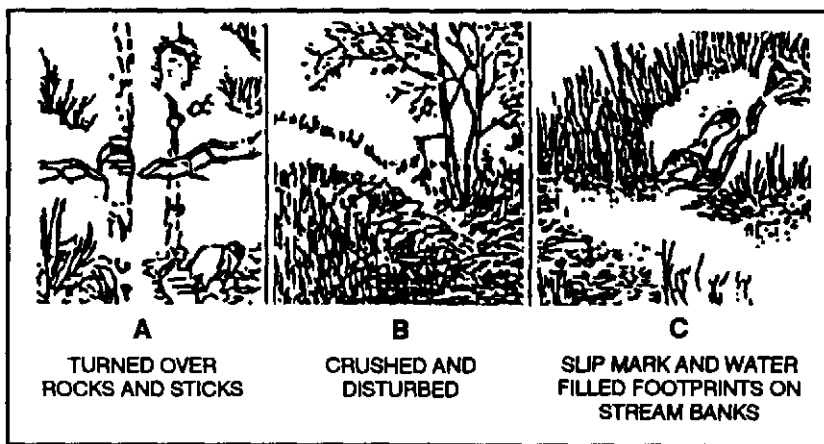

Figure 8-4. Other displacements.
c. Recognizing Other Signs of Displacement Foliage, moss, vines, sticks, or rocks that are scuffed or snagged from their original position form valuable indicators. Vines may be dragged, dew droplets displaced, or stones and sticks overturned (A, Figure 8-4) to show a different color underneath. Grass or other vegetation may be bent or broken in the direction of movement (B, Figure 8-4).
(1) The sniper inspects all areas for bits of clothing, threads, or dirt from footwear that can be torn or can fall and be left on thorns, snags, or the ground.
(2) Flushed from their natural habitat, wild animals and birds are another example of displacement. Cries of birds excited by unnatural movement is an indicator; moving tops of tall grass or brush on a windless day indicates that someone is moving the vegetation.
(3) Changes in the normal life of insects and spiders may indicate that someone has recently passed. Valuable clues are disturbed bees, ant holes uncovered by someone moving over them, or torn spider webs. Spiders often spin webs across open areas, trails, or roads to trap flying insects. If the tracked person does not avoid these webs, he leaves an indicator to an observant sniper.
(4) If the person being followed tries to use a stream to cover his trail, the sniper can still follow successfully. Algae and other water plants can be displaced by lost footing or by careless walking. Rocks can be displaced from their original position or overturned to indicate a lighter or darker color on the opposite side. The person entering or exiting a stream creates slide marks or footprints, or scuffs the bark on roots or sticks (C, Figure 8-4). Normally, a person or animal seeks the path of least resistance; therefore, when searching the stream for an indication of departures, snipers will find signs in open areas along the banks.